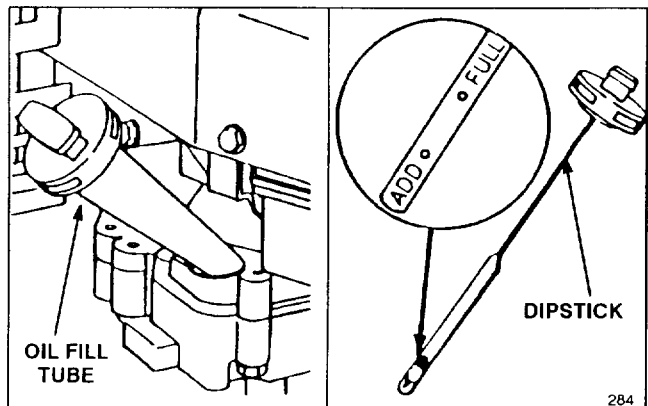

Figure 5
Fill crankcase with SAE 30 oil until oil level reaches FULL mark on dipstick as shown in Figure 5. The maximum crankcase capacity is 25 ounces (0.75 liters) of oil. Use of multi-viscosity oils (10W30, etc.) above 40° F (4° C) will result in high oil consumption and possible engine damage. Use any high quality detergent oil having the American Petroleum Institute (API) "service classification"—SE, SF or SG.
Before each use, ensure oil level is between ADD and FULL marks on dipstick (Fig. 5). Add oil if level is low.
3. Wipe dipstick and insert it into filler neck. Rotate cap clockwise 1/4 turn. Then remove dipstick and check level of oil (Fig. 5). If level is low, add only enough oil to raise level to FULL mark on dipstick. **DO NOT FILL ABOVE FULL MARK BECAUSE EN-**
1. **CHECK OIL LEVEL**—Maintain oil level between ADD and FULL marks as shown on dipstick (Fig. 5).